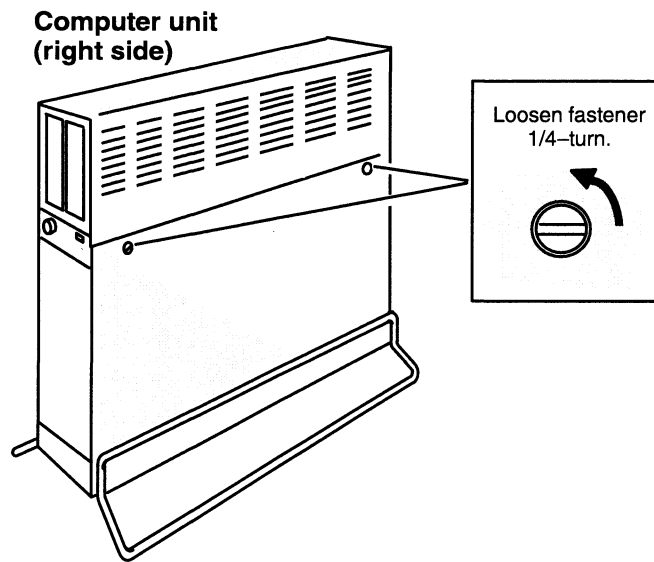

Figure 6-5 Loosening the Side Cover Fasteners
- Using a coin or screwdriver, loosen each fastener by turning it one-quarter turn counterclockwise as shown in Figure 6-5.